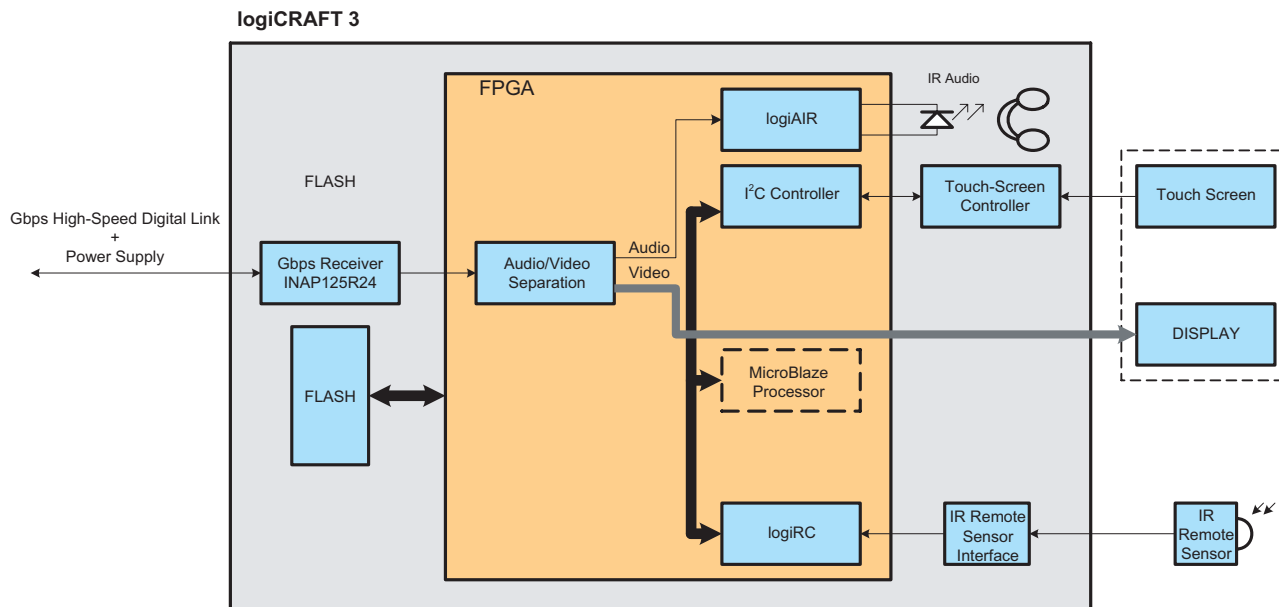

Figure 4 – Platform/FPGA structure for rear-seat entertainment application
- Instrument cluster applications (Figure 4)
Figure 4 shows the platform/FPGA structure for an RSE application where the FPGA design is based on Xylon's IP cores. In such applications, A/V and control data is usually transferred between an infotainment master board and the electronics, which are embedded into car headrests through a number of cables.